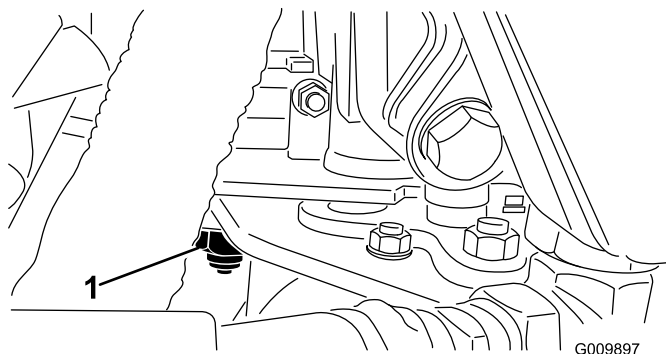

Figure 51
3. Loosen the locknut on the traction adjustment cam (Figure 51).